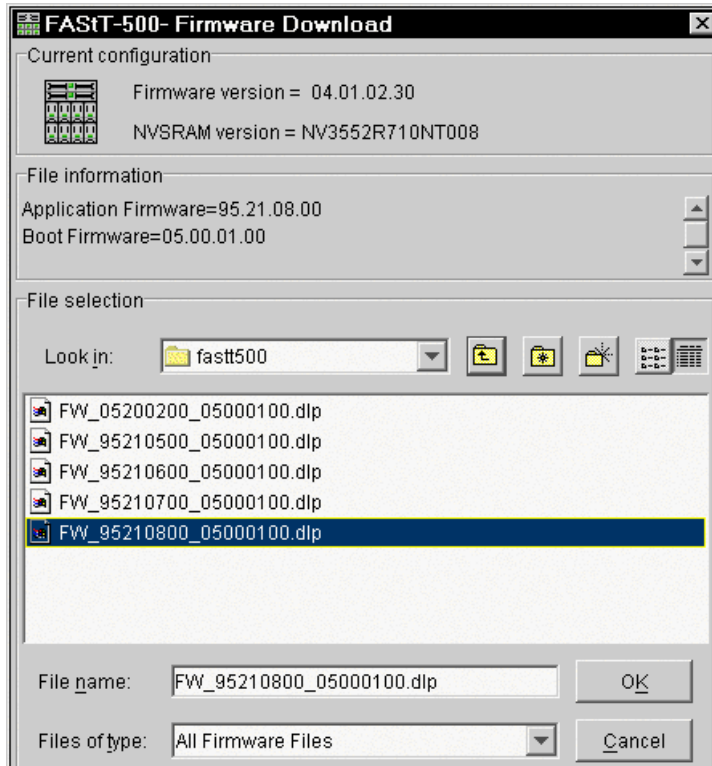
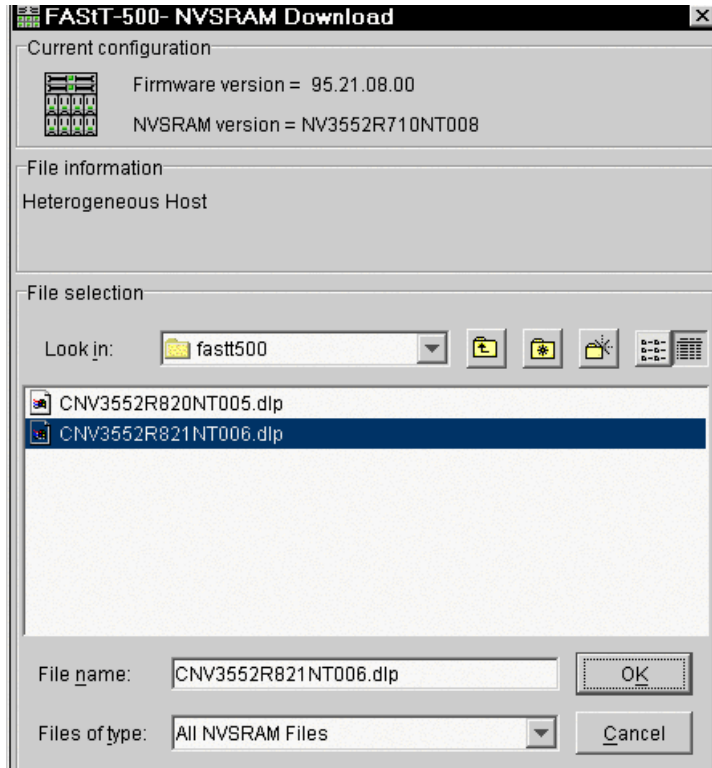

Figure 7-7 Selecting the firmware
Figure 7-13 Selecting NVSRAM
- b. You are now prompted for the file containing the firmware you want to download. In the top part of the window, you can see which version of firmware and NVSRAM are currently loaded. Underneath it shows which firmware revision is in the file you selected. See Figure 7-7.
- b. As for the firmware download, you are now prompted for the file containing the NVSRAM you want to download (Figure 7-13). The window has the same structure as the firmware download window (Figure 7-7 on page 241) and shows the current configuration and details of the file you selected.